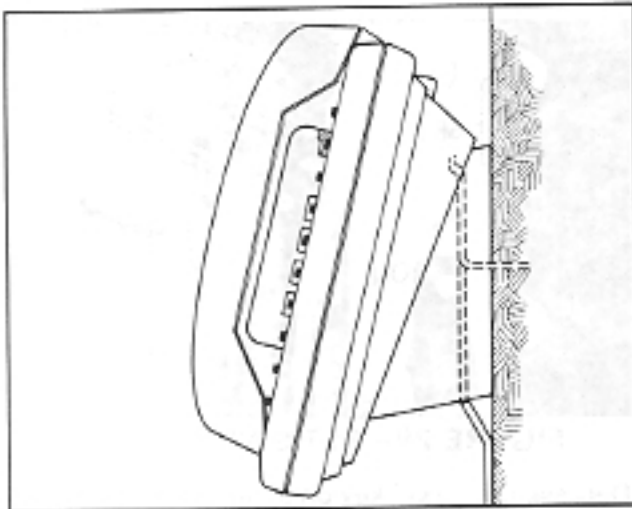

FIGURE 23—"S" EKT WIRE ROUTING
10.16 Route the tail cord as shown in Figure 23